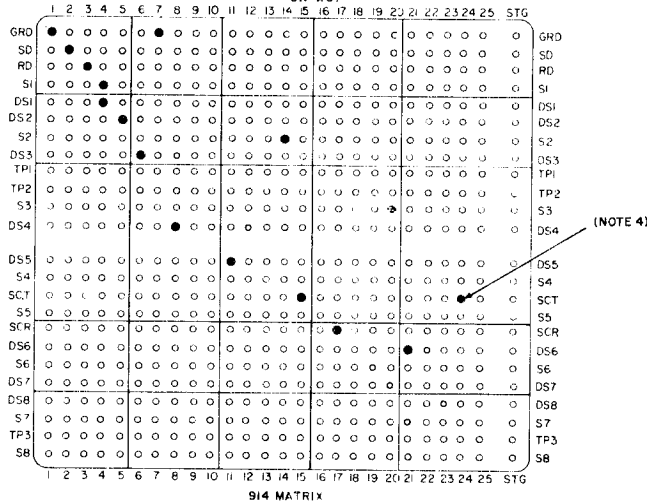

Fig. 3—Test Setup Using 914-Type DTS and 903-Type DTS
- (1) Connect the equipment and set the controls on the 914C DTS as shown in Fig. 3.
**Note:** This test is written to make use of a 914C DTS. If a 914C DTS is not available, connect the 903-type DTS to the 914B DTS and set the controls as shown in Fig. 3.
- (2) Verify that the local data set is not in any test mode.
- (3) Verify that the distant-end data set is in the digital loop-back mode and all intermediate data sets are not in any test mode.
- (4) Apply power to the data set and then to the 914-type DTS.
**Requirements:** At the local data set if testing DS 209A-L1, the ON, RS, CS, CO, and MR indicators are lighted. The ER and TM indicators are off. At the local data set if testing DS 208A-L1, the ON, RS, CS, and CO indicators are lighted. The ER, AL, and DL indicators are off. At the local data set if testing DS 208A-L1A, the ON, CO, MR, RS, and CS indicators are lighted. The ER indicator is off. At the 914-type DTS, DS1 (CA), DS2 (CB), DS3 (CC), DS4 (CF), DS5 (QM), and DS6 (CG) are lighted. The NO CLOCK and NO DATA lamps are off.
- (6) If the 903-type DTS is used, depress and release the START button.
- (7) Reset the counter on the 914-type DTS by pressing the RESET switch. The counter will indicate transmission errors that occur.
- (8) Verify that the error counter is functioning properly by pulling interface selector switch 3A out on the 914-type DTS.
- (9) At the 914-type DTS, depress the interface selector switch 3A.
- (1) Connect the equipment and set the controls of the 914C DTS as shown in Fig. 3.
**Note:** This test is written to make use of a 914C DTS. If a 914C is not available, connect the 903-type DTS to the 914B DTS and set the controls as shown in Fig. 3.
- (2) Depress the data set AL switch.
- (3) Apply power to the data set and then to the 914-type DTS.
- (4) Operate the data set multiplex selector switch to the 9600 bps position.
**Requirements:** At the data set, the ON, RS, CS, CO, MR, and TM indicators are lighted. The ER indicator is off. At the 914-type DTS, DS1 (CA), DS2 (CB), DS3 (CC), DS4 (CF), DS5 (QM) and DS6 (CB) lamps are lighted. The NO CLOCK and NO DATA lamps are off.
**Note:** If the DSR on in AL mode option is not installed, the MR indicator and the DS3 (CC) lamp are off.
- (5) If the 903-type DTS is used, depress and release the START button.
- (6) Reset the counter on the 914-type DTS by pressing the RESET switch. The counter will indicate transmission errors that occur.
- (7) Verify that the error counter is functioning properly by pulling interface selector switch 3A out on the 914-type DTS.
- (8) On the 914-type DTS, depress the interface selector switch 3A.
**Note:** This test is written to make use of a 914C DTS. If a 914C is not available, connect the 903-type DTS to the 914B DTS and set the controls as shown on Fig. 3.
- (2) Verify that options YJ (S3-8) and YN (S6-8) are installed.
(3) If the local data set is equipped with the slave option WI (S6-5), temporarily remove this option and install option WJ (S6-4) before performing the test.
(4) Verify that the distant-end data set is in the digital loop-back mode, with the multiplex selector switch to 9600, and that the ON indicator is lighted.
(5) Apply power to the local data set and then to the 914-type DTS.
(6) Operate the data set multiplex selector switch to the 9600 bps position.
**Requirements:** At the data set, the ON, RS, CS, CO, and MR indicators are lighted. The ER and TM indicators are off. At the DTS, DS1 (CA), DS2 (CB), DS3 (CC), DS4 (CF), DS5 (QM), and DS6 (CG) lamps are lighted. The NO CLOCK and NO DATA lamps are off.
- (7) If the 903-type DTS is used, depress and release the START button.
- (8) Reset the counter on the 914-type DTS by pressing the RESET switch. The counter will indicate transmission errors that occur.